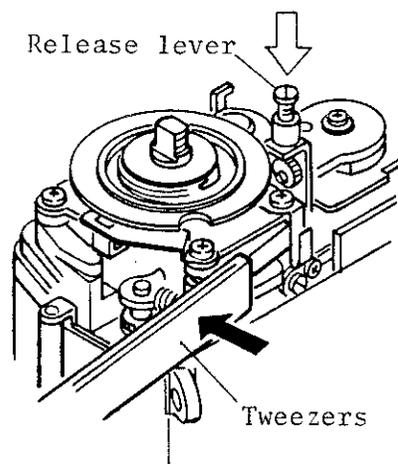

Fig.52
1. Adjustment is made by turning the adjusting screw. (Fig. 52)
- c. With depressing the release lever, attaching the main switch. But, first install its right side and push its left side by head of the tweezers. (Fig. 52)